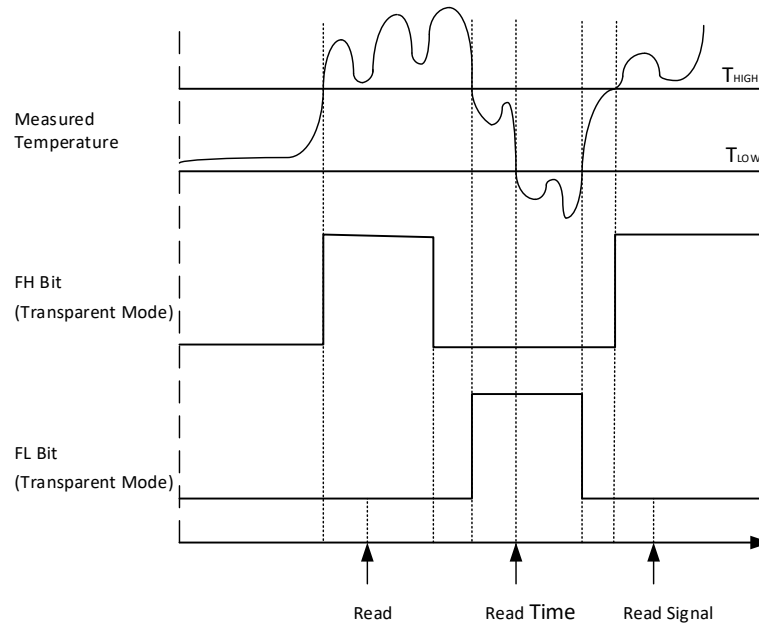

Figure 5.3 Temperature Flag Functional Diagram
The NST103 has a watchdog function, which can monitor the device temperature and compare the temperature results with the values set in the temperature limit registers (T_{HIGH} and T_{LOW}) to monitor whether the device temperature is within these set limits. As long as the temperature value detected by NST103 is higher than the value set in the T_{HIGH} register, the flag high bit (FH) of the configuration register is set to 1. As long as the detected temperature value is lower than the value in the T_{LOW} register, the flag low bit (FL) is set to 1. If both the high and low flag bits are 0, the temperature is between the temperature range set by the temperature limit register, which can be shown in Figure 5.3.